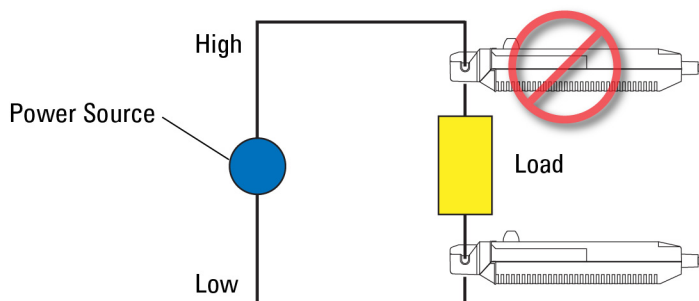

Figure 5 Clamp Onto the Low-Voltage Side of Circuit
- At high frequencies, common mode noise may affect measurements taken on the high voltage side of circuits. If this occurs, reduce the frequency range of the measuring instrument or clamp onto the low-voltage side of the circuit as shown in Figure 5, as appropriate.